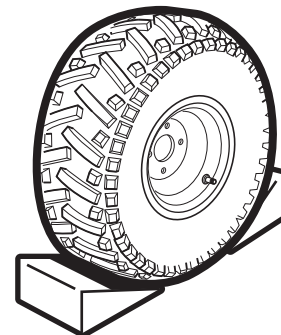

Fig. 2 Wheel Chocks
1. Chock the rear wheels to keep the vehicle from rolling backward (Ref. Fig. 2).